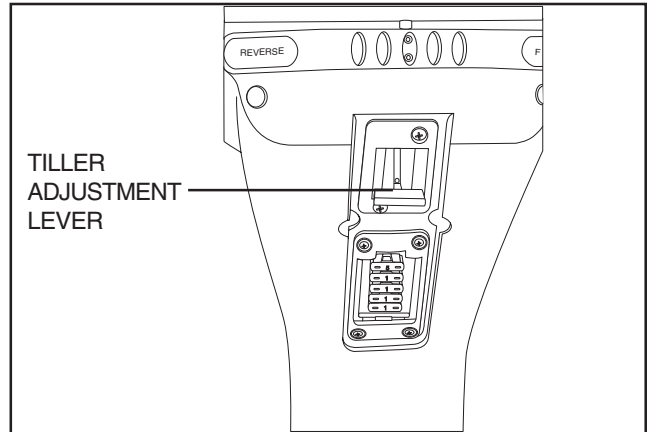

Figure 11. Tiller Adjustment
1. Lift the tiller adjustment lever. See figure 11.